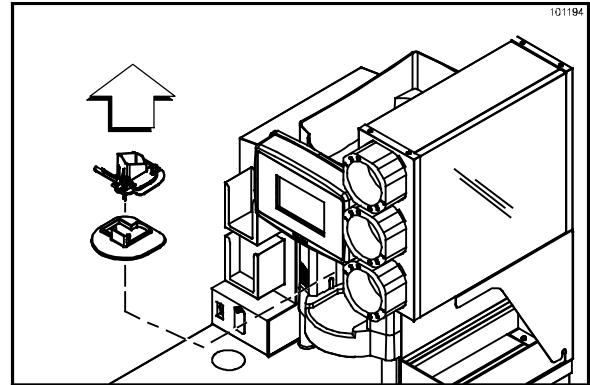

Figure 184
7. Remove the splash guard and ice shaver chute. Take them to the 3-compartment sink. (See Figure 184.)